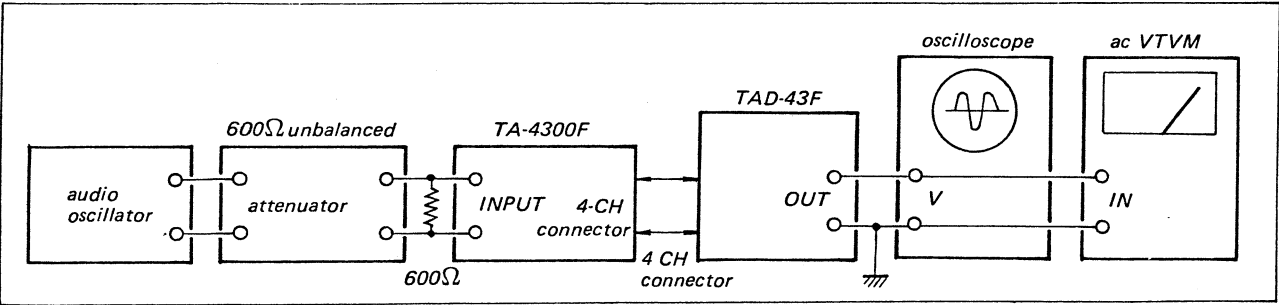

Fig. 3-4 Harmonic distortion test setup
1. With the equipment connected as shown in Fig. 3-4, feed a signal as specified in Table 3-4, to obtain a 14.2 dB (4.0 V rms) output.